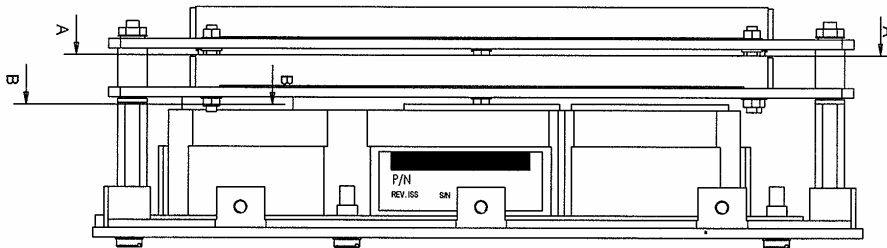

Figure 1 – View of Rear Module Showing Location of Identification Label
- (1) Locate Rear Module identification label (Refer to Figure 1).
- (2) Note the Rear Module Serial Number.
- (3) Create new identification label with the following information:
- (1) Endorse the LGCIU Amendment label (CMM Page 10012, Fig 1, Item 180) to Amendment A.